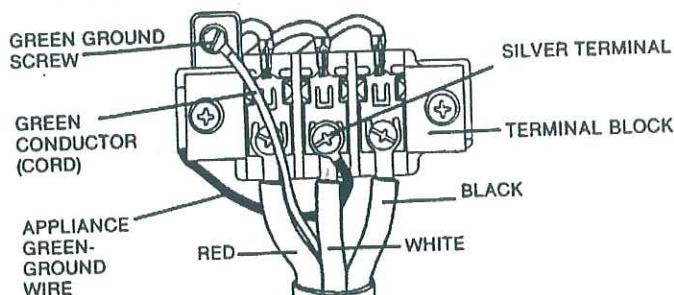

Figure A13
8. Attach the green ground wire of the power cord to the cabinet with the green ground screw (Figure A13).
9. Attach the white (neutral) wire from the power cord and the green ground wire from the appliance harness to the silver-colored center terminal on the terminal block. (Figure A13).
10. Attach the red and black wires from the power cord to the outer brass-colored terminals on the terminal block (Figure A13).